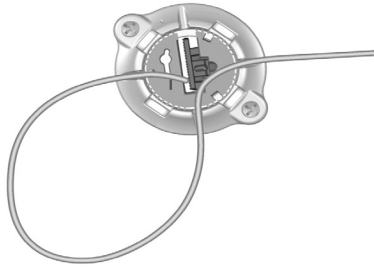

Figure 24. Placement of the DBS Lead into Additional Lead Exit Slots
12. **Optional:** Secure the DBS Lead to additional Lead Exit Slots for added strain relief (Figure 24).